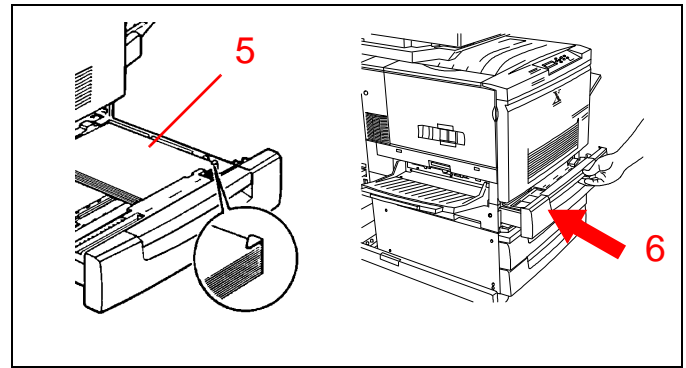

Figure 19
5. See Figure 19. Reload the paper in the tray, being sure the paper is under the fluke at the front right side.